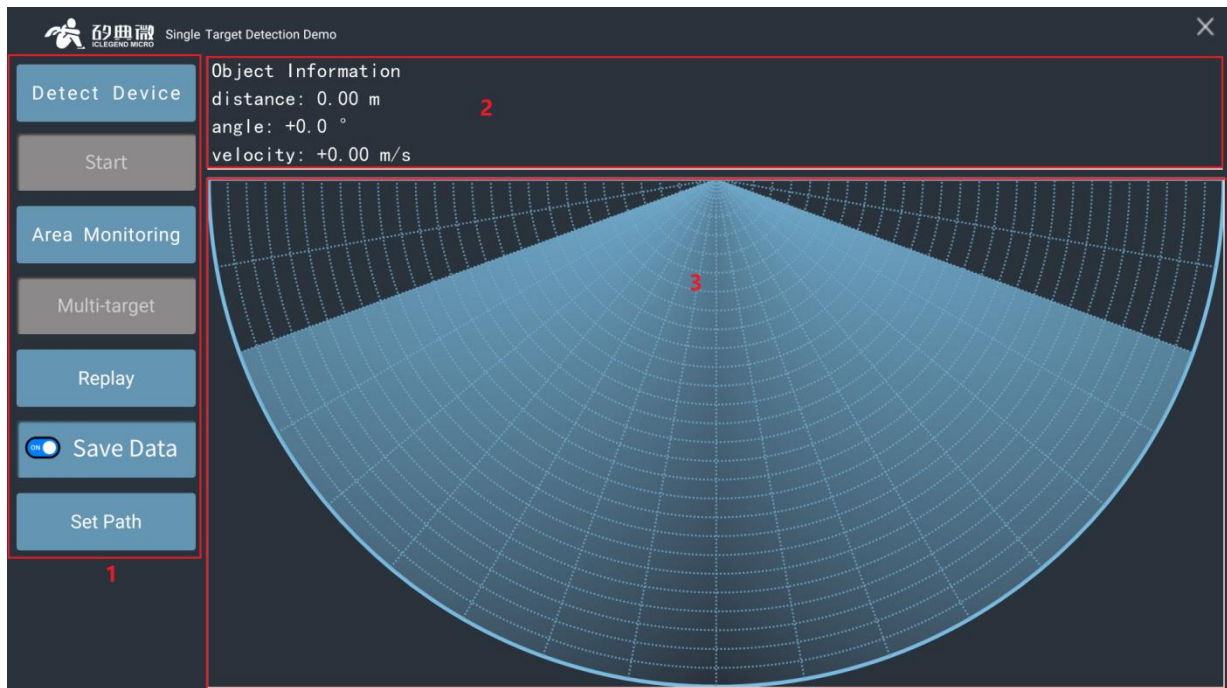

Figure 2.1.1 Demo Tool Interface
Step 2: Double-click to open the host computer tool “ICL_MTT.exe”, and the demo tool interface will pop up, as shown in Figure 2.1.1.